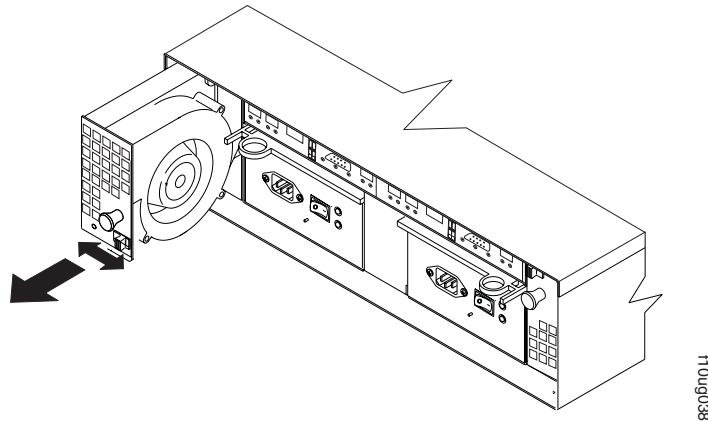

Figure 65. Removing a fan
- b. Use the handle (black knob) to pull the fan from the storage server. See Figure 65.